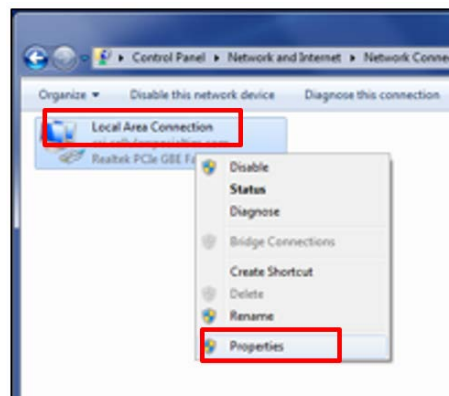

Figure 4-17: Local Area Network
- Right click **Local Area Connections** and select **Properties** as shown in Figure 4-17.